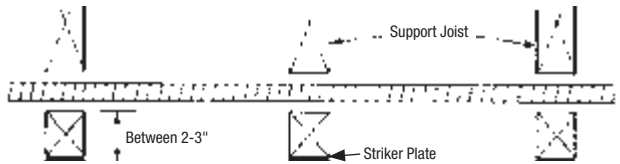
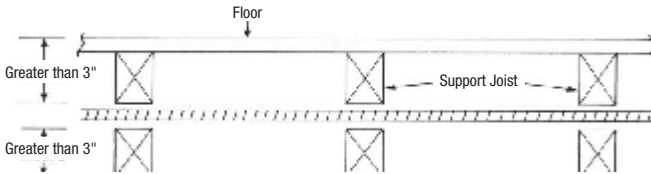

Figure 4.10 Shielding at Support Area When Penetration is 2-3 inches from Edge
Figure 4.12 Penetration Point Greater than 3" from Edge of Stud, Joist, Plate, etc.
2. At support points and points of possible penetration 2-3 inches from any edge of stud, joist plate, or other member, shielding is required throughout the area of support. (Figure 4.10)
1. Support tubing such that it is more than 3 inches away from any outside edge of a stud, joist, plate, etc., or wall surface. (See Figure 4.12 compared to Figure 4.10)